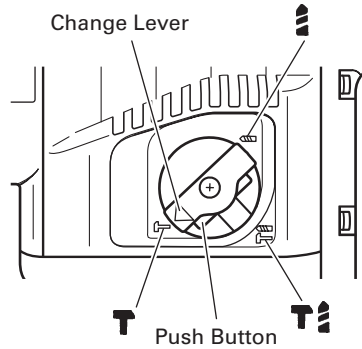

Fig. 10
This rotary hammer can be set to striking only mode by pressing the push button and turning the change lever to **T** mark. (Fig. 10)
- (3) Turn the change lever to **T** mark. (Fig. 10)